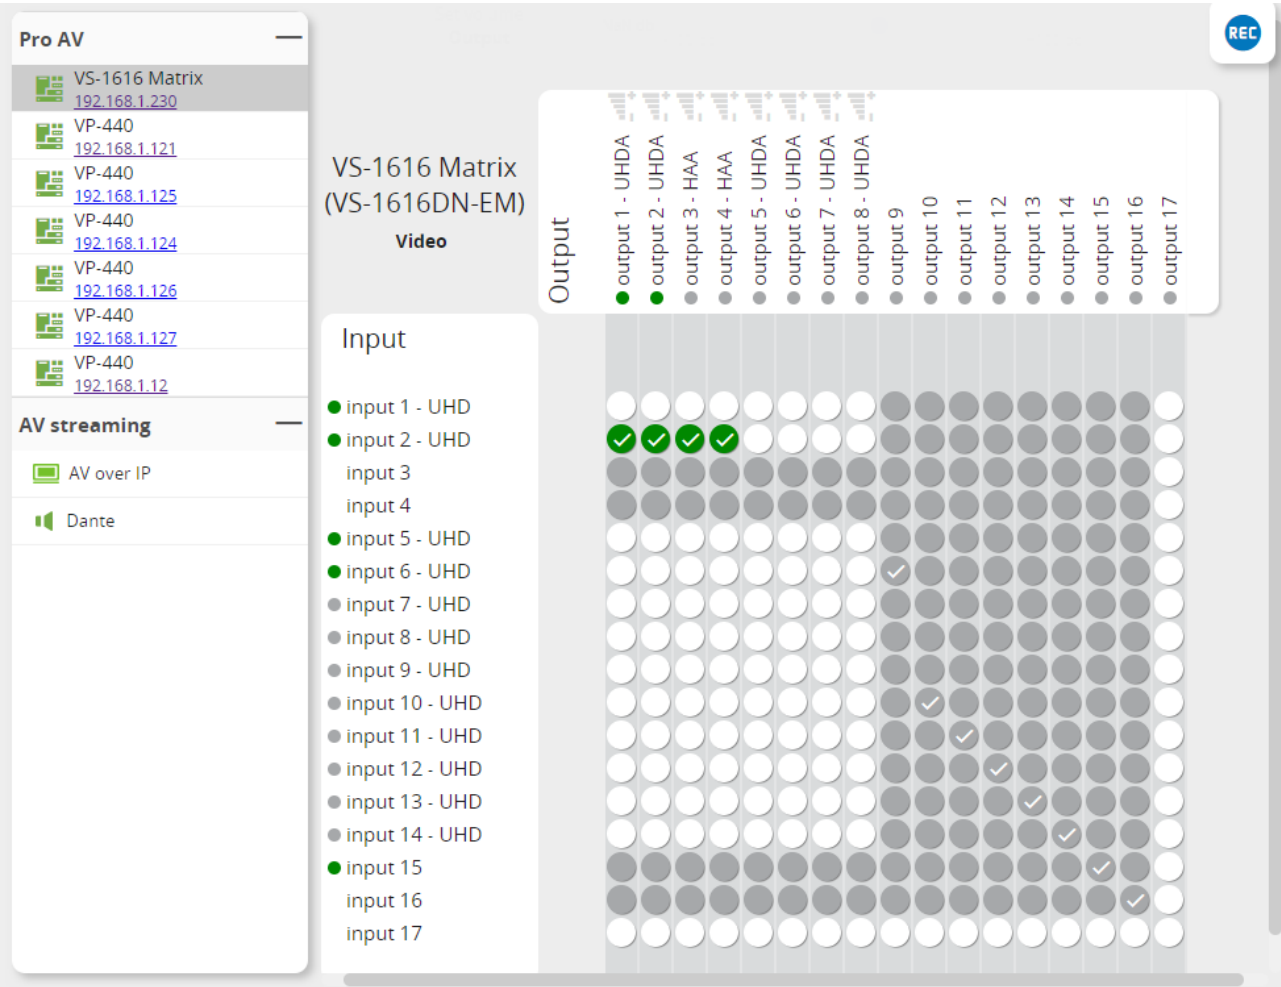

Figure 115: Matrix View – Pro AV Video Routing
4. Click an empty cross-point  to connect an input to an output (for example, in Figure 115 UHD 1 input is routed to UHDA 1 output and other outputs as well).